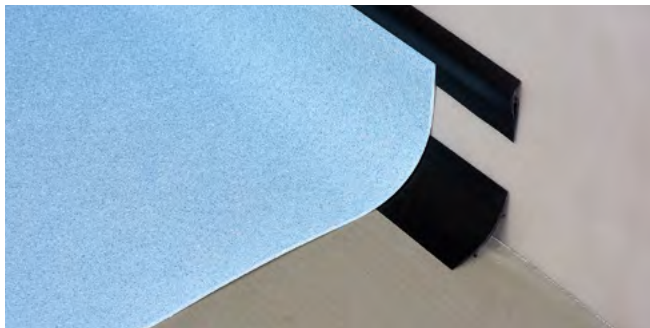

Figure 3.6 CS-N capping strips
3.13.1 Fitting Ejecta capping strip (type CS-N) Figure 3.6